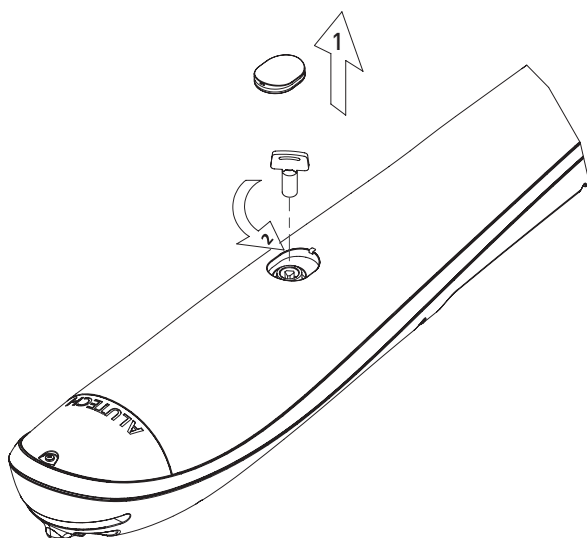

Figure 15. Manual release
To release the drive (fig. 15), use the special key supplied with the drive kit. Turn the key to $\sim 180^\circ$ towards the **OPEN** label. To return the drive to the locked (engaged) state, turn the key towards the **CLOSE** label. Once you have locked it, move the leaf manually, slowly, without shocks or impacts until you hear a distinctive engagement click.
- Release the drive as shown in *fig. 15*.